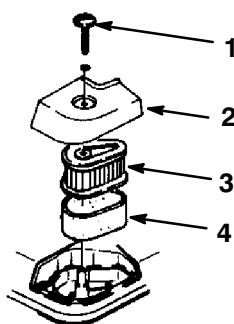

Figure 18
3. Remove the bolt that secures the air cleaner cover (Fig. 18).
4. Remove the cover and clean it thoroughly (Fig. 18).
5. Remove the foam pre-cleaner and wash it with a mild detergent and water, then blot it dry (Fig. 18).
7. Remove the paper air filter and discard it (Fig. 18).